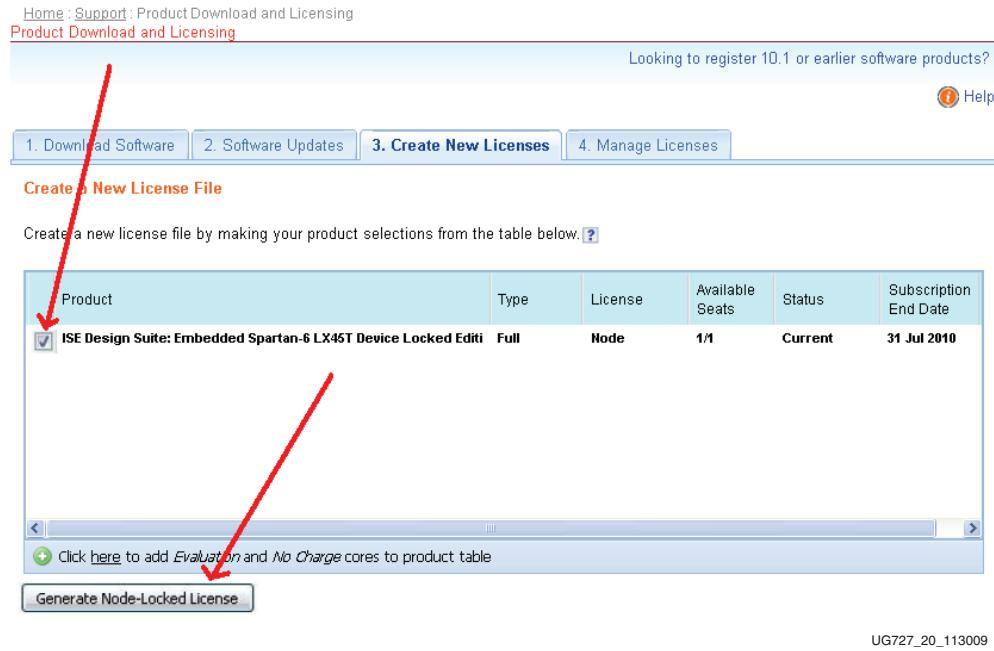

Figure 13: Xilinx Entitlement Center
5. Check the product **ISE Design Suite Embedded Spartan-6 LX45T Device Locked Edition** and click on **Generate Node-Locked License** as shown in Figure 13.